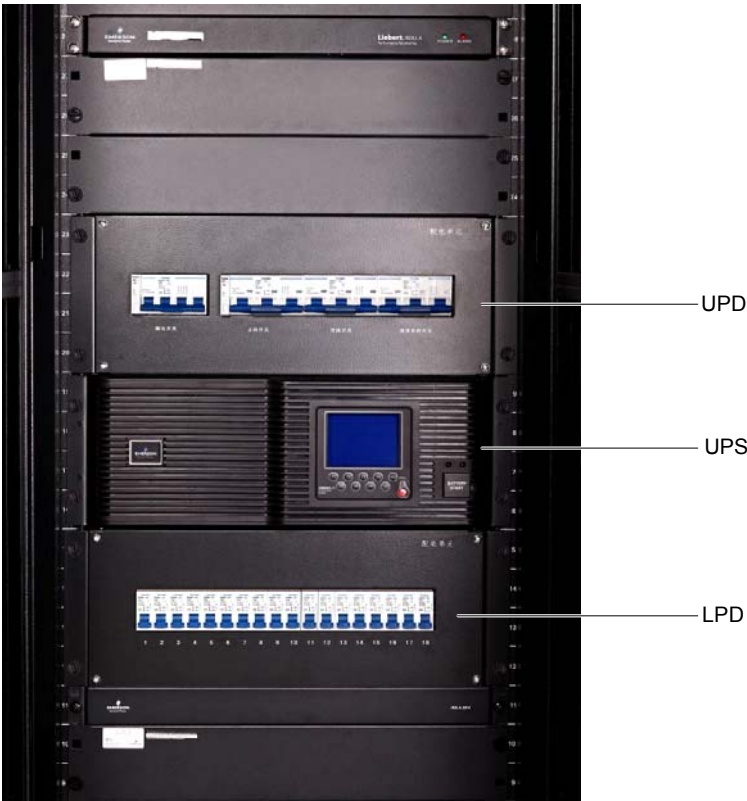

Figure 8-2 LPD installation
3. Use four M6*16 panel screws to fix the LPD onto the rack through brackets. See Figure 8-2.